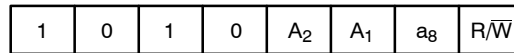

Figure 3. Slave Address Bits
The Master initiates data transfer by creating a START condition on the bus. The Master then broadcasts an 8-bit serial Slave address. For normal Read/Write operations, the first 4 bits of the Slave address are fixed at 1010 (Ah). The next 3 bits are used as programmable address bits when cascading multiple devices and/or as internal address bits. The last bit of the slave address, R/W, specifies whether a Read (1) or Write (0) operation is to be performed. The 3 address space extension bits are assigned as illustrated in Figure 3. A₂, A₁ and A₀ must match the state of the external address pins, and a₁₀, a₉ and a₈ are internal address bits.